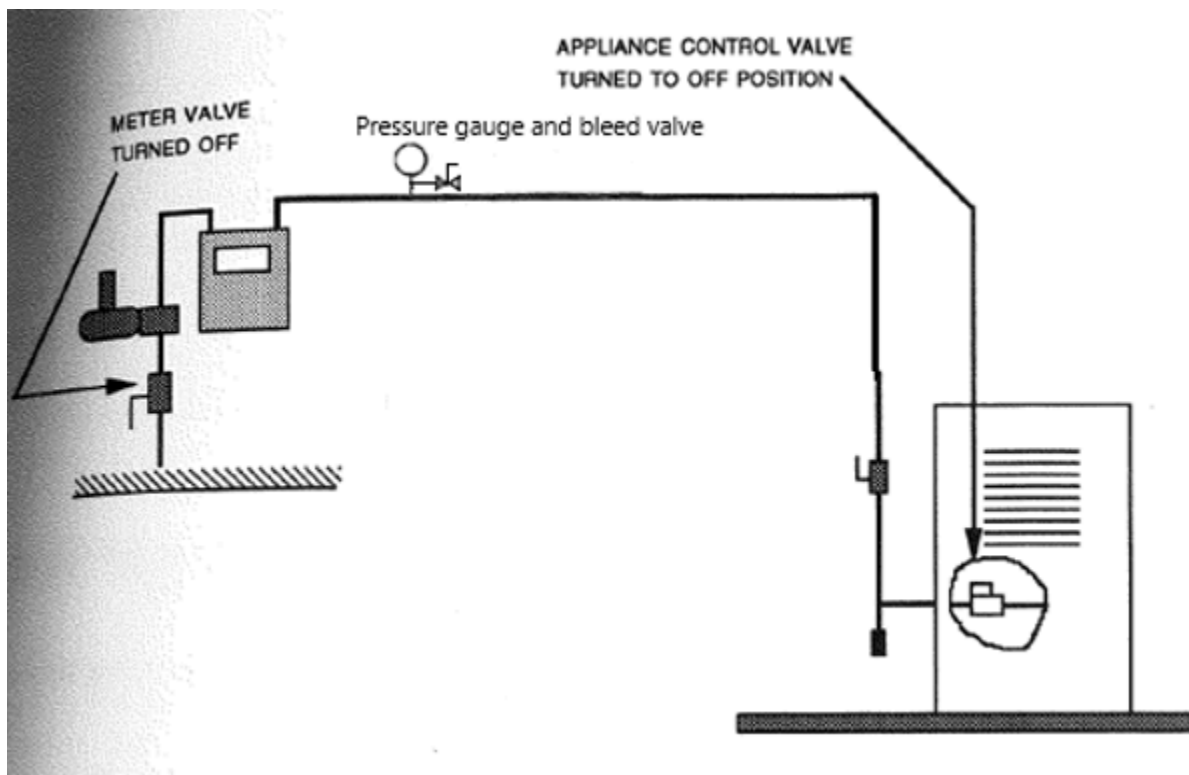

Figure 4. Stage 2 pressure test
After the gas appliances are installed, perform the Stage 2 test (Figure 4):
The best way to search is by using a bubble leak detector solution (aka soap test). A leak will cause the solution to create bubbles (Figure 4) at the joint or fitting. Specially designed bubble leak detector solutions that are made for this purpose are recommended. They have better coating and bubbling characteristics than dish detergent and are non-corrosive. Sometimes the location of the leak may be obvious, but other times it will not (Figure 5). In those cases, you will need to cover as many of the fitting joints with the solution as possible to locate the potential leak(s). Be aware of the test pressure as you may need to add additional pressure to the lines to make up for leak loss.
- Figure 4. “Stage 2 pressure test” by Rod Lidstone is licensed under a CC BY-NC-SA licence (<https://creativecommons.org/licenses/by-nc-sa/4.0/deed.en>).